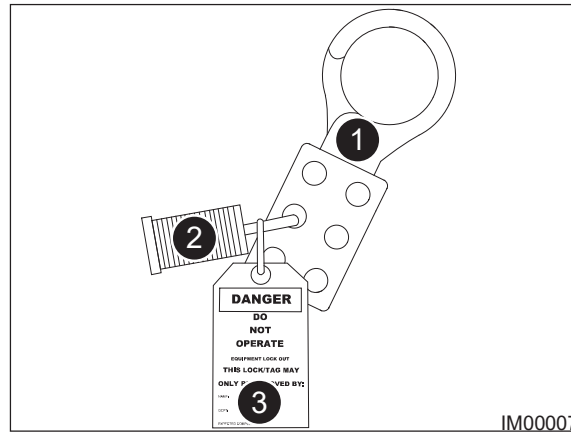

Fig: 2.7 - Lockout Clasp, Lock & Tag
4. Install the Lockout Clasp (Item 1, Fig: 2.7).
5. Individuals who are permitted to work on the machine are required install their own personal Lock and Tag to the clasp (Items 2 & 3, Fig: 2.7). The tag shall contain the correct information as in regards to who is working on the machine, the time and date of when it was installed, and the expected completion time of when the task will be complete.
3. Remove the Tag, Padlock, and Clasp from the isolator switch (Items 3,2,1, Fig: 2.7).